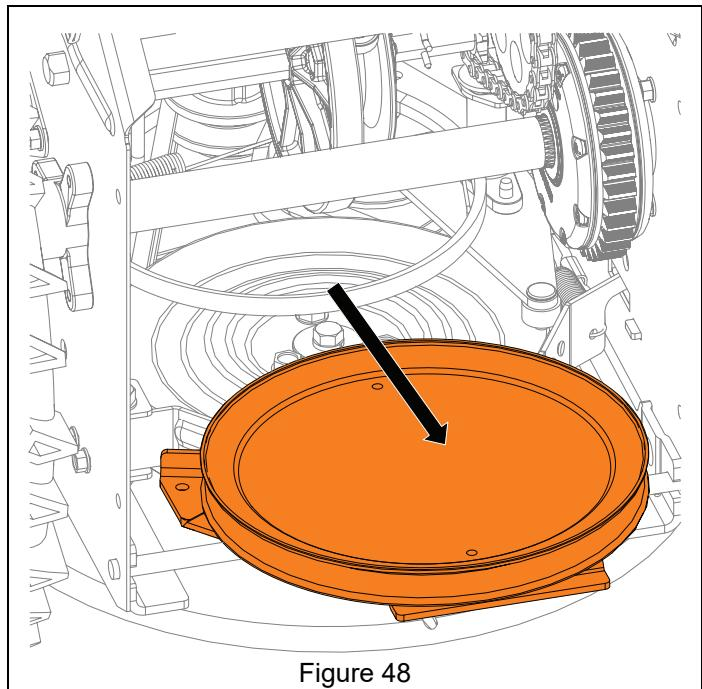

Figure 48
13. Disengage traction drive belt from traction drive pulley and remove swing gate assembly. See Figure 48.